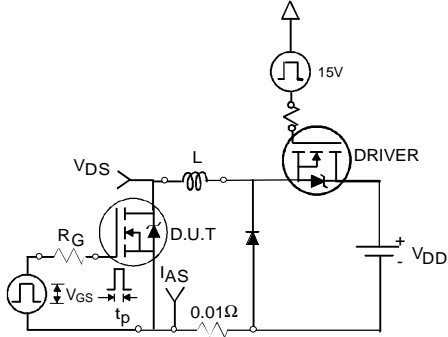

Fig 12a. Unclamped Inductive Test Circuit
- ② Starting T_J = 25°C, L = 0.38mH, R_G = 25Ω, I_{AS} = 29A, (See Figure 12a)
- ③ I_{SD} ≤ 29A, di/dt ≤ 420A/μs, V_{DD} ≤ V_{(BR)DSS}, T_J ≤ 150°C
- ④ Pulse width ≤ 300μs; duty cycle ≤ 2%.
- ⑤ C_{oss eff.} is a fixed capacitance that gives the same charging time as C_{oss} while V_{DS} is rising from 0 to 80% V_{DS}
- ⑥ Calculated continuous current based on maximum allowable junction temperature. Package limitation current is 30A.